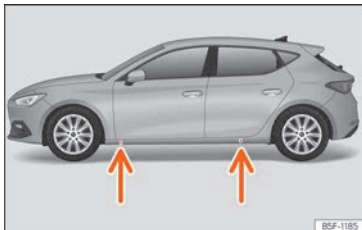

Fig. 45 Jack position points.
- Find the support point on the strut (sunken area) closest to the wheel to be changed »» **Fig. 45**.